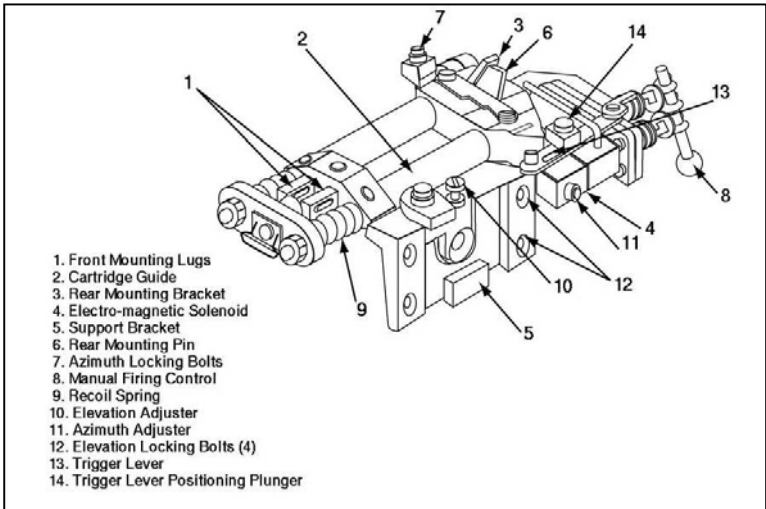

Figure 4-5-2: Parts of Coaxial MG Mount
11. The coaxial mount consists of the component parts detailed in Figure 4-5-2.